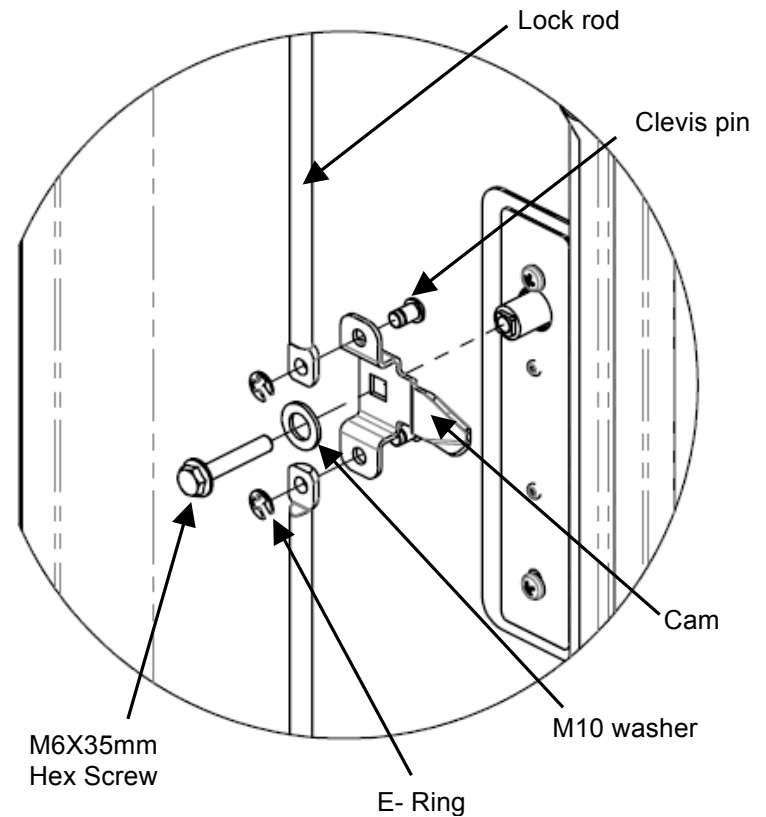

Fig. 7
5. Install the 3 point cam into the Lock Spindle with M6 X 35mm Hex screw & M10 washer on ELS1500 spindle (Fig. 7).
6. Insert the cam assembly pins through the short rod (on top) and the long rod (on bottom), then through the other half of the cam assembly (Fig. 7) and lock with e-ring.